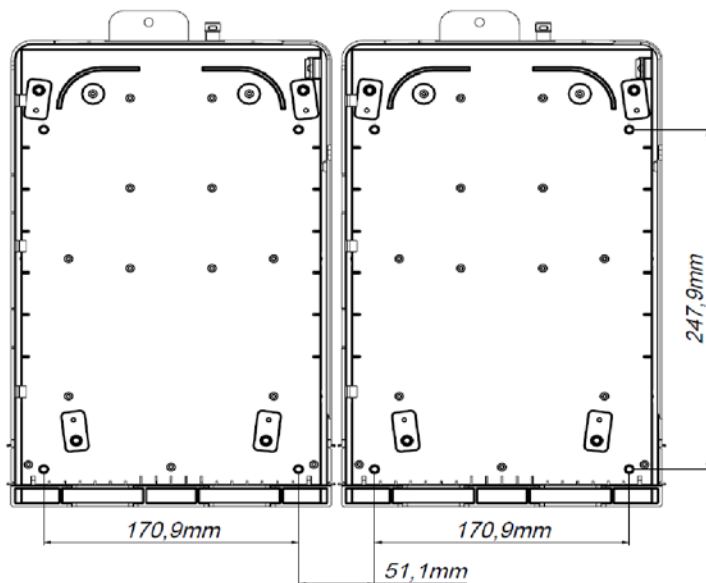

Figure 8
1.1.7 Install the two enclosures to the wall. Use the following distances for drilling when installing two or more enclosures (Fig. 8).